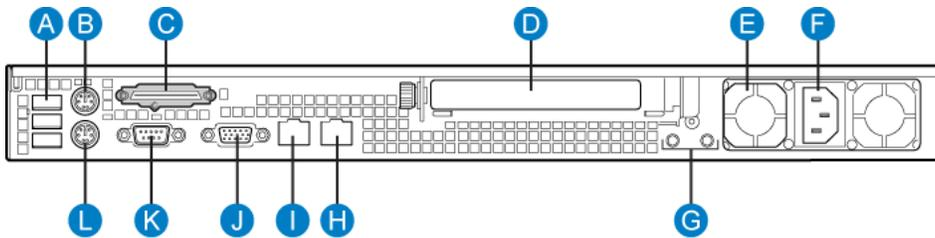
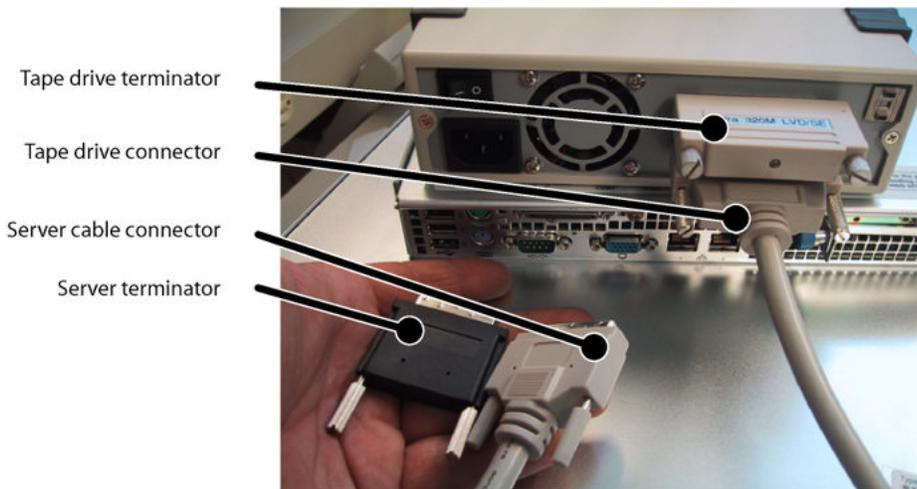

Figure 7: Rear panel
Figure 8: SCSI tape drive with terminator
2. Locate the external SCSI terminator (included loose within the server shipping carton). Connect the terminator to the rear SCSI port labeled C in Figure 7: Rear panel on page 31. For an illustration of the SCSI terminator, see the item labeled Server terminator in Figure 8: SCSI tape drive with terminator on page 33.
When you connect an external SCSI tape drive, the device must be terminated. Your tape drive comes with a terminator. (See Tape drive terminator in Figure 8: SCSI tape drive with terminator on page 33.) The 600r server also comes with a server terminator, a VHDCI (Very High Density Connection Interface) Ultra320 SCSI terminator. (See Server terminator in Figure 8: SCSI tape drive with terminator on page 33.) In a previous procedure, you are instructed to connect the server terminator to the SCSI port. Before you connect an external tape drive to the 600r, you must remove the server terminator.
3. Connect the external SCSI tape drive to the SCSI port in the rear panel, Label C on the rear panel diagram, as shown in Figure 7: Rear panel on page 31.
4. Install the SCSI tape drive terminator to the back of the SCSI tape drive, as shown in Figure 8, under the label Tape drive terminator.
The CLAN connector is labeled 1 on the rear panel of the 600r. For the connector location, see the diagram on Figure 7: Rear panel on page 31, Label I.